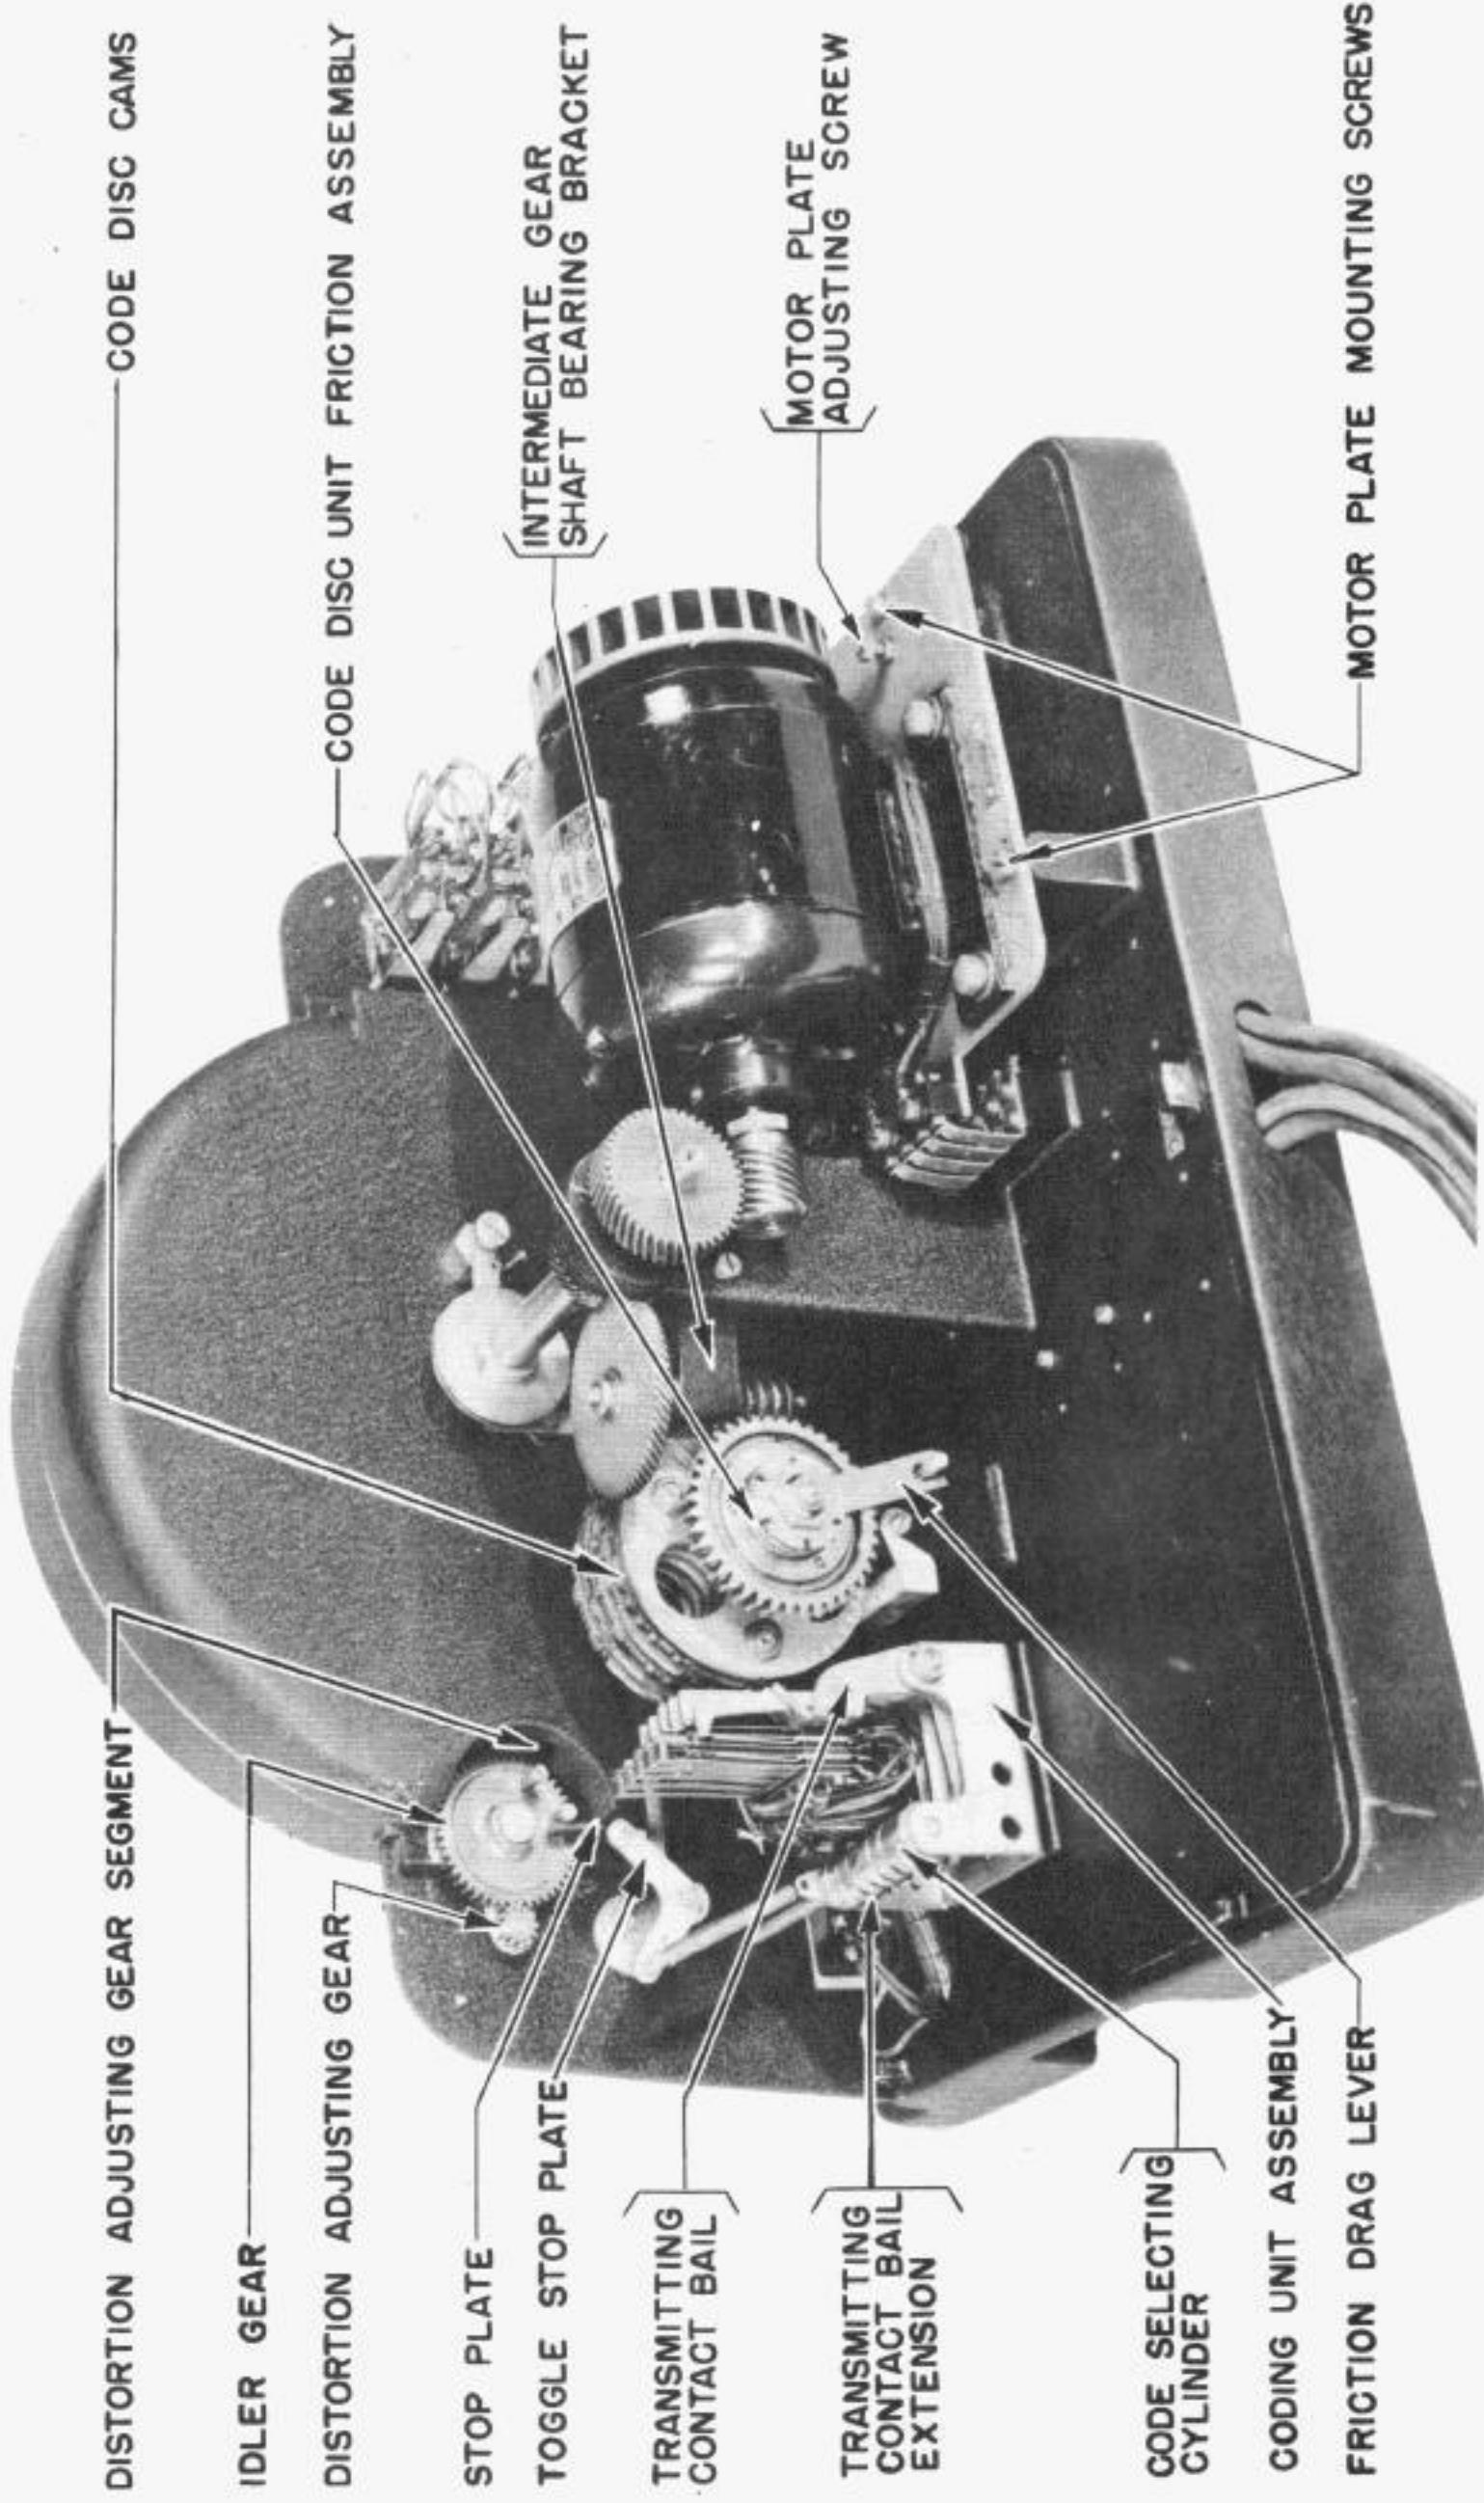

FIGURE 2
There should be a barely perceptible amount of backlash between the motor pinion and the main shaft gear. Check for one complete revolution of the main shaft gear. To adjust, loosen the left motor plate mounting screw and the adjusting screw lock nut. Then loosen the two right motor plate mounting screws slightly. Adjust the height of the motor pinion by means of the adjusting screw. Tighten the adjusting screw lock nut and the three motor plate mounting screws and recheck the adjustment. (See Figure 2.)
The intermediate gears should be favorably aligned with a perceptible amount of backlash. Check upper and lower pairs of gears. To adjust, loosen the intermediate gear shaft bearing bracket mounting screws and position the bracket. Tighten the mounting screw. (See Figure 2.)
With the Code Selecting Knob in the TEST MESSAGE position, apply the push end of a 12 lb. scale to the end of the bail extension, adjacent to the code selecting cylinder. It should require at least 2 lbs. to start the bail extension moving away from the code selecting cylinder. (See Figure 2.)
- (1) With the motor unit in position on the base, hook a 4 lb. scale over one of the end motor unit slip connection springs, just below the head of the terminal screw on the motor connection block, and pull at right angles to the slip connection springs. It should require 2 1/4 to 3 3/4 lbs. to just break contact. Measure the pressure of the opposite end slip connection spring in the same manner. Use a test lamp to determine when the contact breaks. To adjust, remove the motor unit and bend the slip connection springs. (See Figure 2.)
- (2) With the motor unit removed, place a straight edge across the two end slip connection springs. There should be some clearance, not more than .015" between the two inner connection springs and the straight edge. To adjust, bend the two inner connection springs.
With the motor running at least 10 minutes, hook a 32 oz. scale over the end of the friction draglever and pull at right angles to the lever. It should require 20 to 32 ozs. to hold the lever against the stud. (See Figure 2)